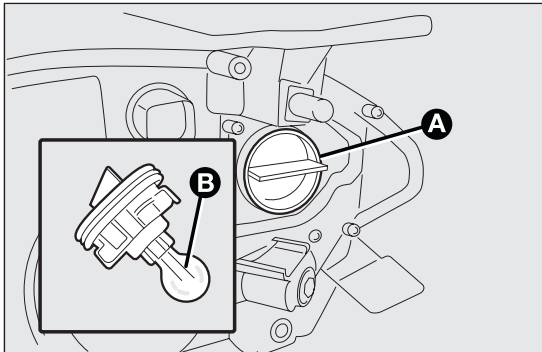

fig. 161
- remove the bulb B fig. 161 and replace it;